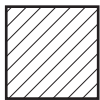

Figure 1
Refer to Figures 1–4 when answering questions 3 and 4.
- a. Figure 1